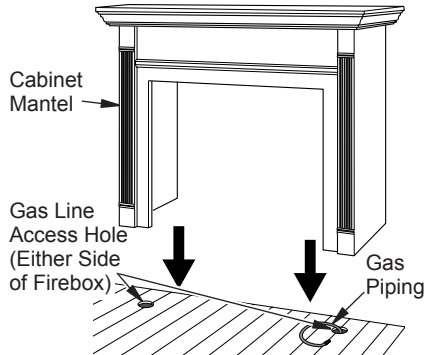

Figure 11 - Installing Cabinet Mantel (Mantel May Vary From Illustration)
2. Install gas piping to firebox location. See *Installing Gas Line, page 14*. You may have to cut an access hole in the floor or wall to run gas line to firebox. Make sure to locate access hole so cabinet mantel will cover it when installed (see Figure 11).